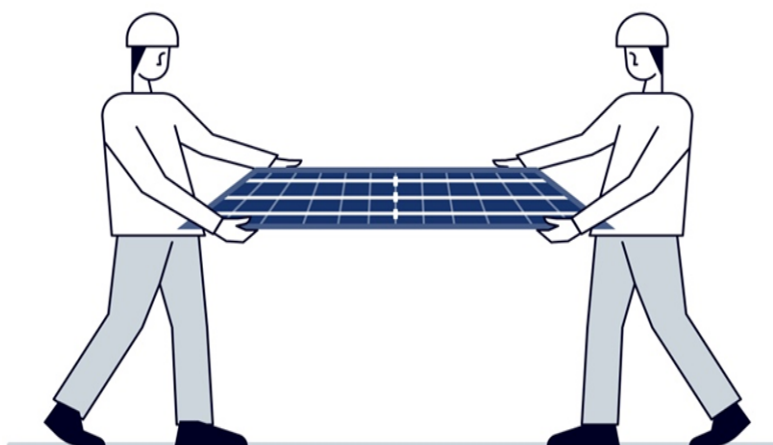

Figure 23: Module handling.
- e) PV modules must be grabbed from the aluminum frame with two hands (Figure 23).